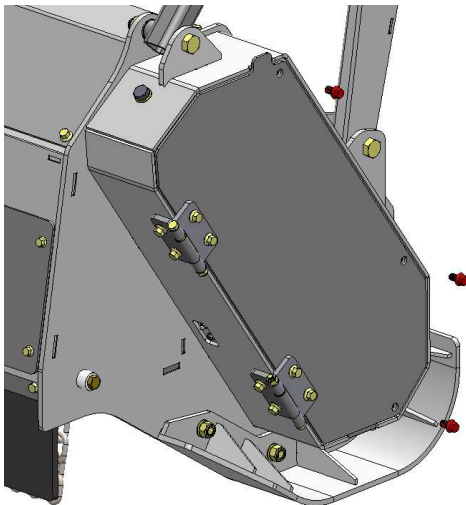

Figure 13
The 79" model has three (3) bolts with the hinged door. See Figure 13.